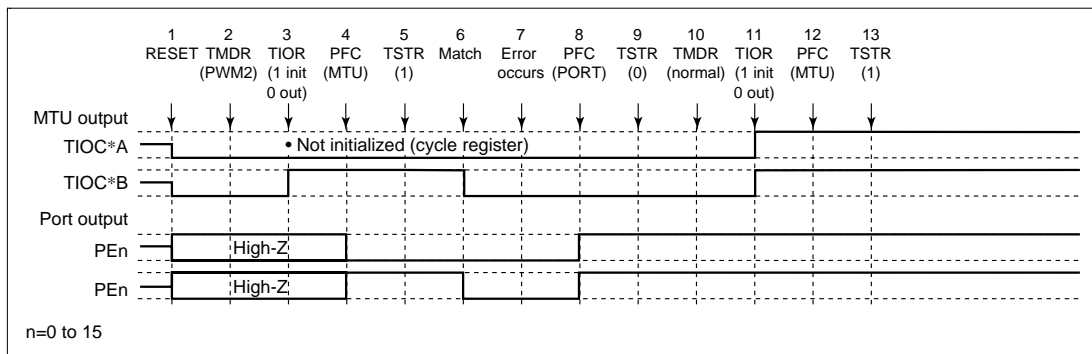

Figure 12.108 Error Occurrence in PWM Mode 2, Recovery in Normal Mode
(13) Operation when Error Occurs during PWM Mode 2 Operation, and Operation is Restarted in Normal Mode: Figure 12.108 shows an explanatory diagram of the case where an error occurs in PWM mode 2 and operation is restarted in normal mode after re-setting.
1 to 9 are the same as in figure 12.108.